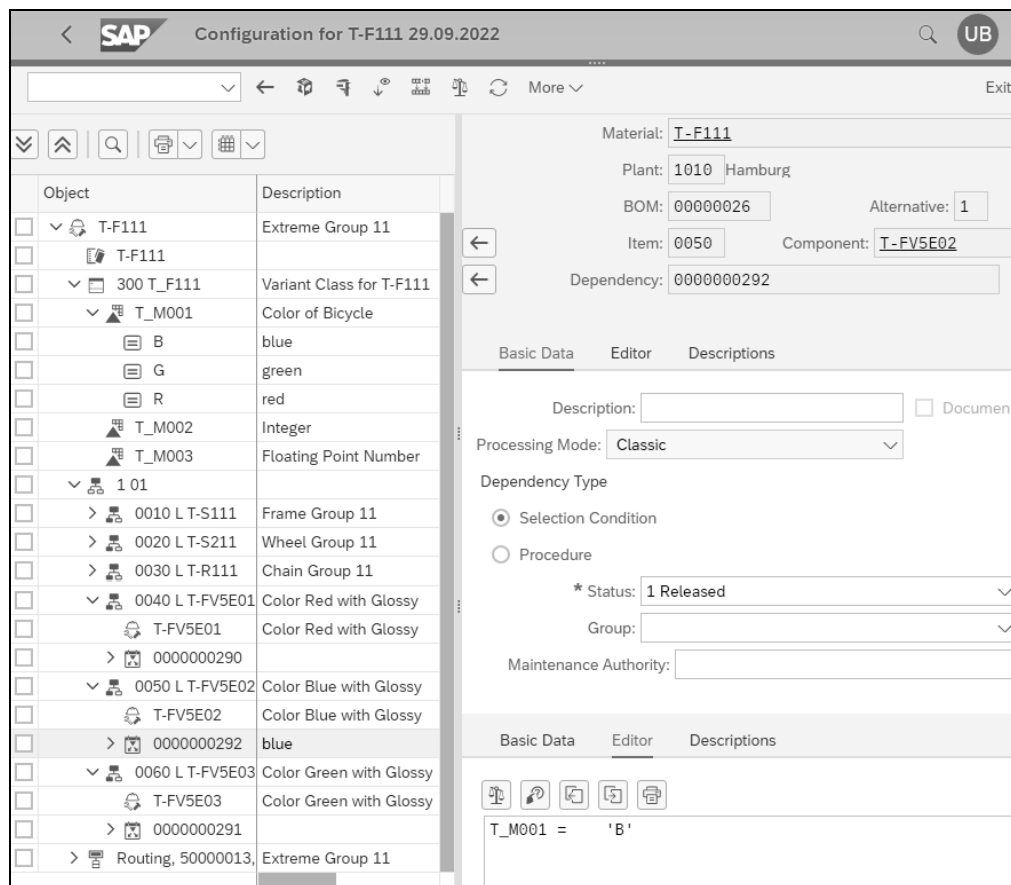

Figure 3.19 Maintaining Object Dependencies via Drag and Drop
Figure 3.19 shows the result: On the left side of the tree structure, another entry 0000000290 exists under BOM item 0040 L T-FV5E01. This entry is the object dependency that we just created.
As shown in Figure 3.19, the final object dependency created is shown on right. This selection condition uses the classic processing mode and has the following syntax: